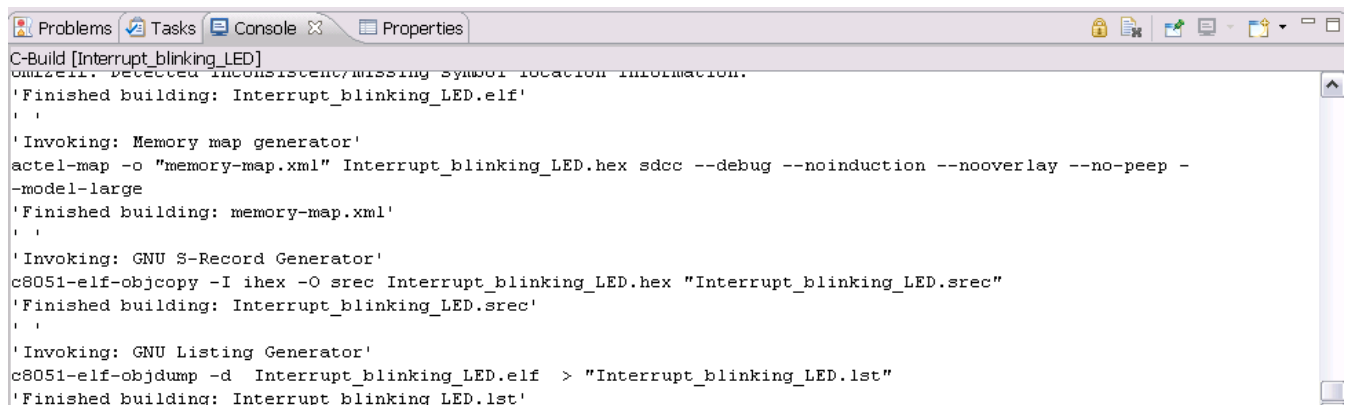

Figure 41 The Console Tab
8. The **Console** tab is displayed with no errors, as shown in Figure 41.